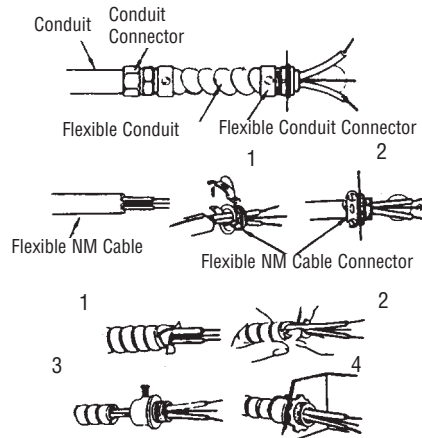

Figure 2 - Connectors, cable, and hardware used to wire the UH724STA
**NOTE:** For certain applications, conduit may be required (see Figure 2). Check local electrical codes. If wiring is run in conduit, be sure there is enough flexible conduit to allow the heater to be turned if necessary.
2. Attach the cable connectors to the unit (See Figure 2) and slide the 8 gauge wire through the cable connector. Pull enough wire through the connector to work with when making the connections.